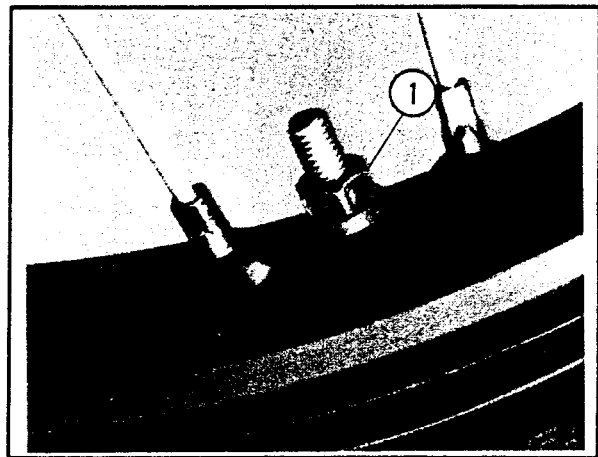

Figure 5-66. Bead Lock Nut
5. See Figure 5-66. Loosen, but do not remove the bead lock nut (1).
14. See Figure 5-66. Use a 13 mm wrench and tighten bead lock nut (1).